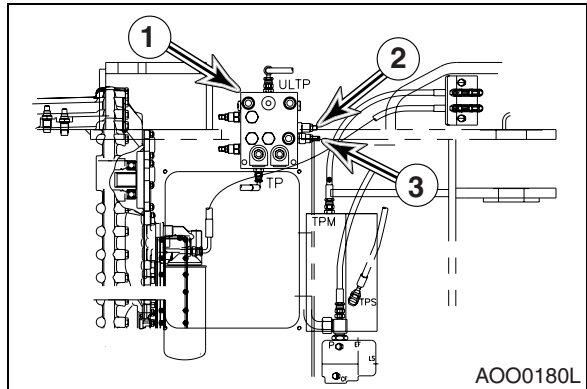

Figure 109
2. Adjust relief cartridge (3, Figure 109) on brake and pilot supply valve (1, Figure 109). Relief pressure should be set at $28^{+3}_{-2} \text{ kg/cm}^2$ ($398^{+43}_{-30} \text{ psi}$).